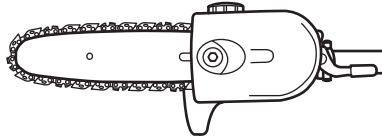

Fig. 13a
1. Set the product on any suitable surface with the chain oil tank cap (D1) facing upwards. (See Fig. 13a)